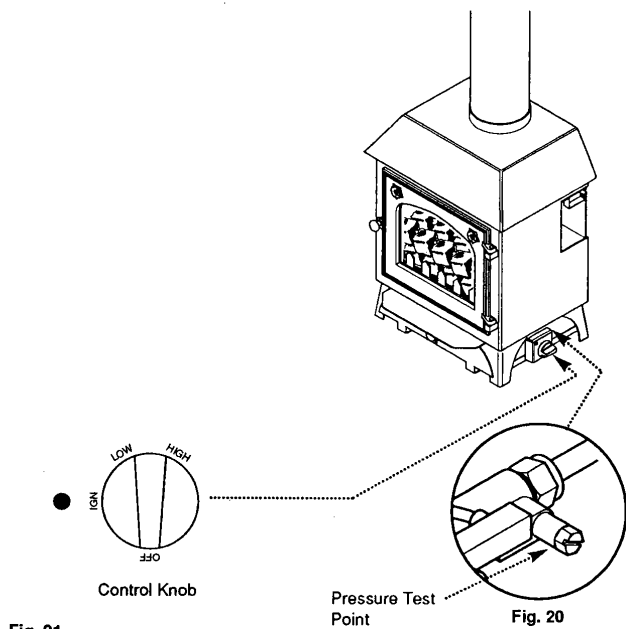

Fig. 21
2. Purge the air from the appliance by pushing in the control knob and rotating to the ignition position (Fig. 21). Allow the air in the pipework to be purged, and then rotate the knob further to operate the piezo igniter. The pilot should light.